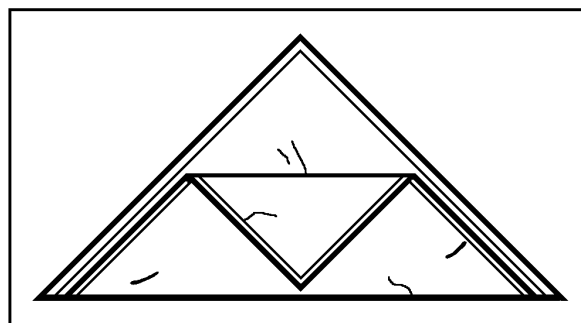

Figure 3-10
- d. Fold back the corner approximately 2 to 2-1/2 inches toward you, without uncovering any portion of the pack. (See Figure 3-10.)